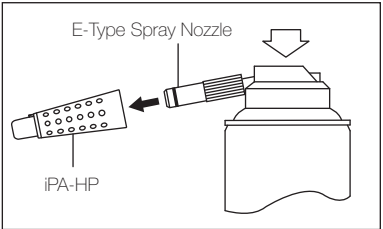

Fig. 7
- 3) Attach the Spray Nozzle into the Spray Port nozzle on the can. (Fig. 7)
- 4) Insert the Spray Nozzle into the rear of the hanpeace tip (iPA-HP). Hold the handpiece tip and spray 2-3 times for approximately 2-3 seconds each time. Apply lubricant until it expels from the handpiece tip head for at least 2 seconds. (Fig. 7)